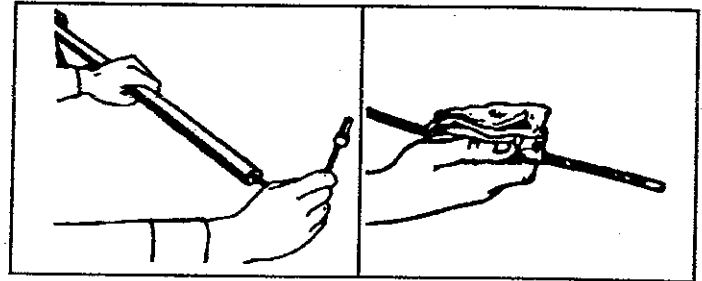

Figure 28
2. Remove the Drive Shaft from the drive Shaft Housing. Figure 28.